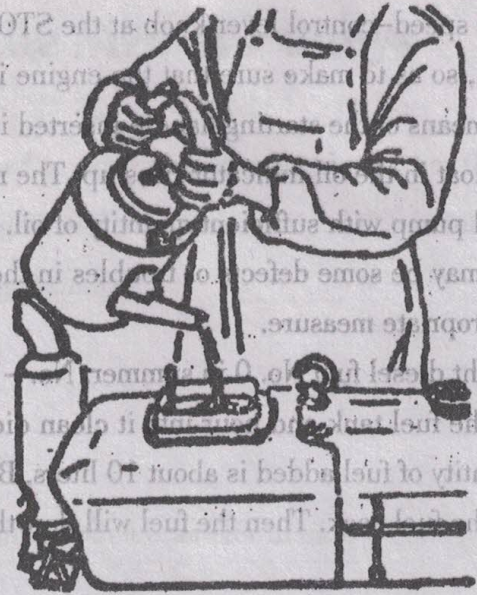

Fig. 7 Pouring clean water into the hopper
9. Pour clean water into the hopper, until the red ball of the float rises up to the highest position. Do not use dirty water or water which contains alkaline or salt. Otherwise, blockage of water duct or erosion of the hopper may result (Fig. 7).